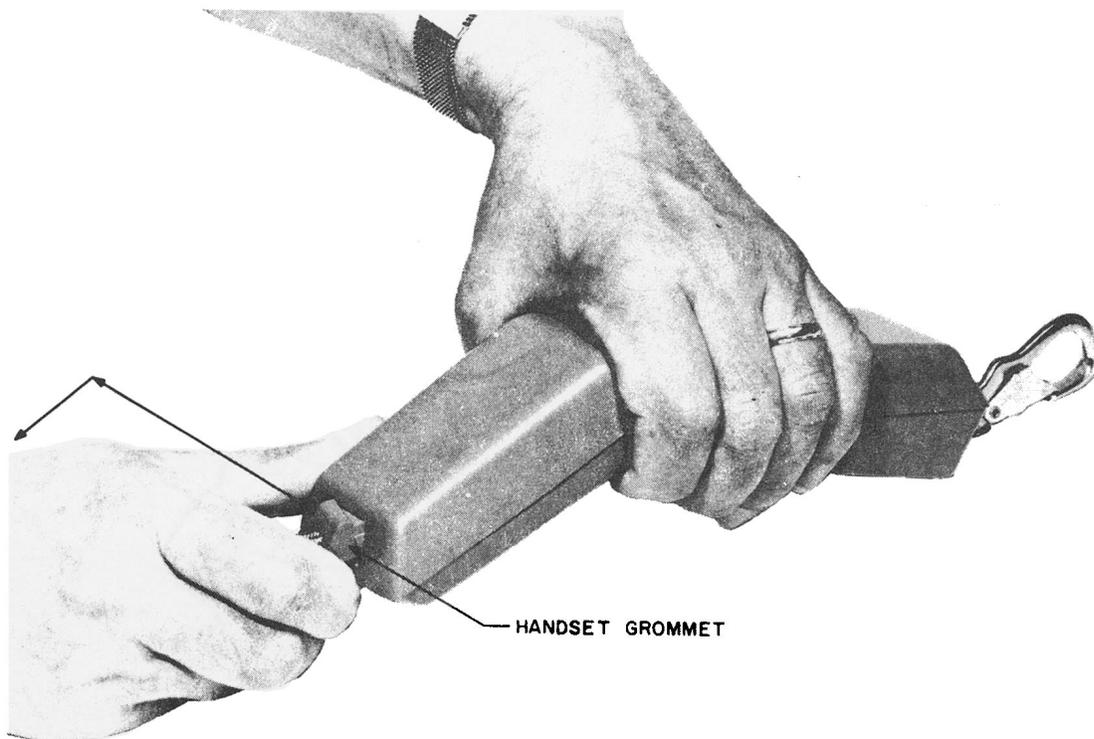
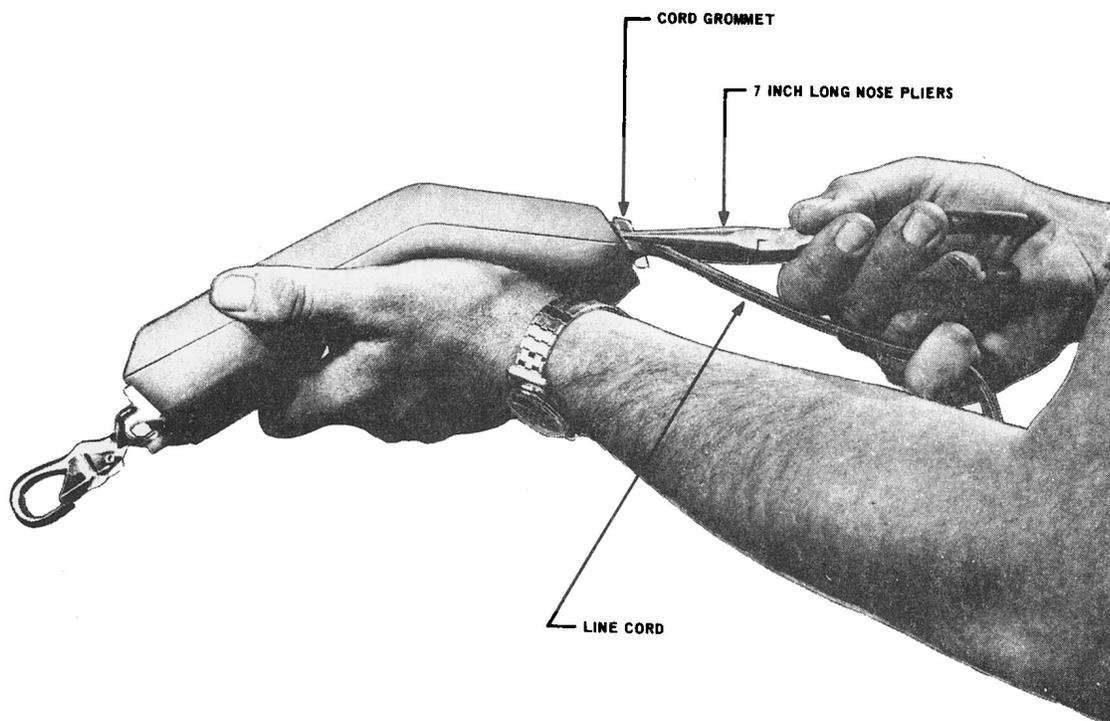

Fig. 10 – Removal of Handset Grommet
Fig. 11 – Alternative Method of Removing Handset Grommet
- (1) Turn the handset over so that the dial faces downward.
- (2) Push the line cord into the grommet to release the internal pressure of the grommet.
- (3) Press the grommet sideways toward the rocker switch and then up in one motion (Fig. 10) to release the grommet from the housing.
- (4) If difficulty is experienced, apply a sideways pressure to release one side of the two piece grommet.
- (5) Hold the line cord between the third and fourth fingers.
- (6) Using 7 inch longnose pliers held in the same hand as the line cord, gently squeeze the grommet and withdraw it from the handset while at the same time pulling on the line cord. (Fig. 11.)
- (7) Once the grommet has been withdrawn, two screws are exposed. Loosen these two screws by about three-sixteenths of an inch only, as it is not desirable or necessary to remove them.
- (8) Free (do not remove) the two captive screws in the card retainer well.
- (9) Loosen the receiver end, then slide the smooth (back) half of the handset housing back to release this section from the slotted screw holes.